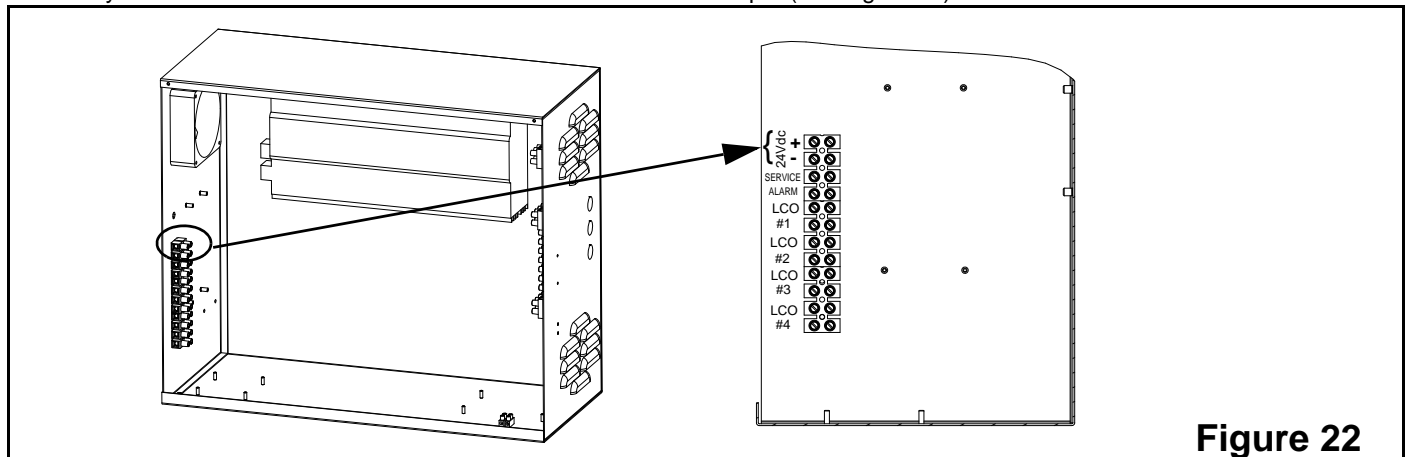

Figure 22
- Identify the "+" and "-" terminal blocks dedicated for the 24VDC output (see Figure 22).